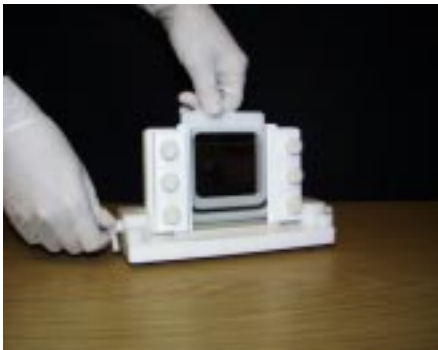

Fig 6
- Run the acrylamide separating gel mix slowly down the inside edge of the gel cassette (fig 6). **Avoid aeration**. If a stacking gel is to be used, carefully overlay the separating gel to a depth of 3 - 5mm with 1 x separating gel buffer or water-saturated butanol.